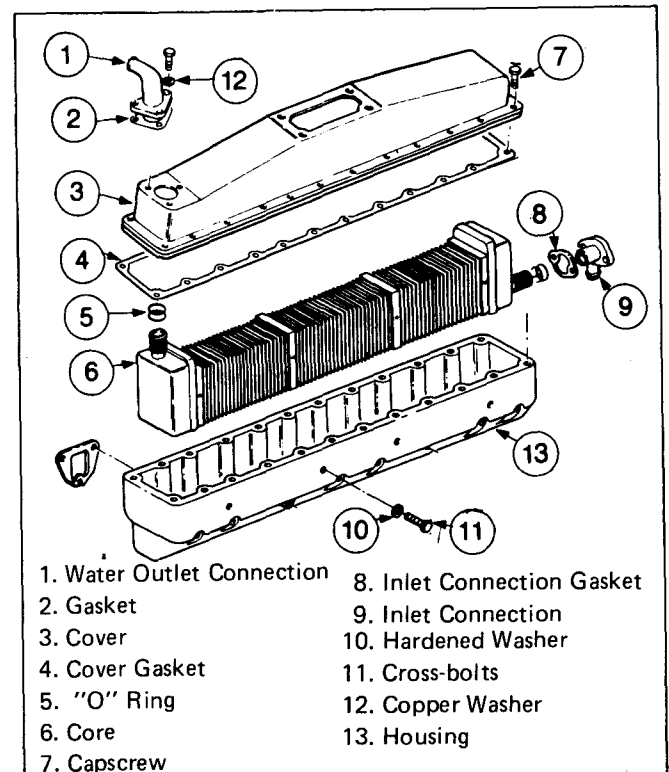

Fig. 8-27, (N10899). Aftercooler — exploded view (new)
1. Place aftercooler housing (13, Fig. 8-27) in upright position on work bench.